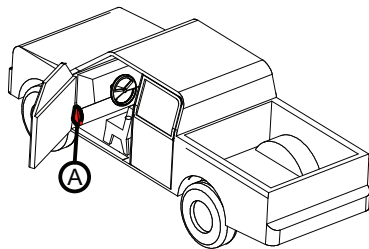

Figure A-1
2. Locate the rear door-ajar signal wire (**dark blue with white stripe**) on black connector below the hood-release lever (Area-A in Figure A -1). There should be two wires of this color; use the wire located on the row closest to the plug release.